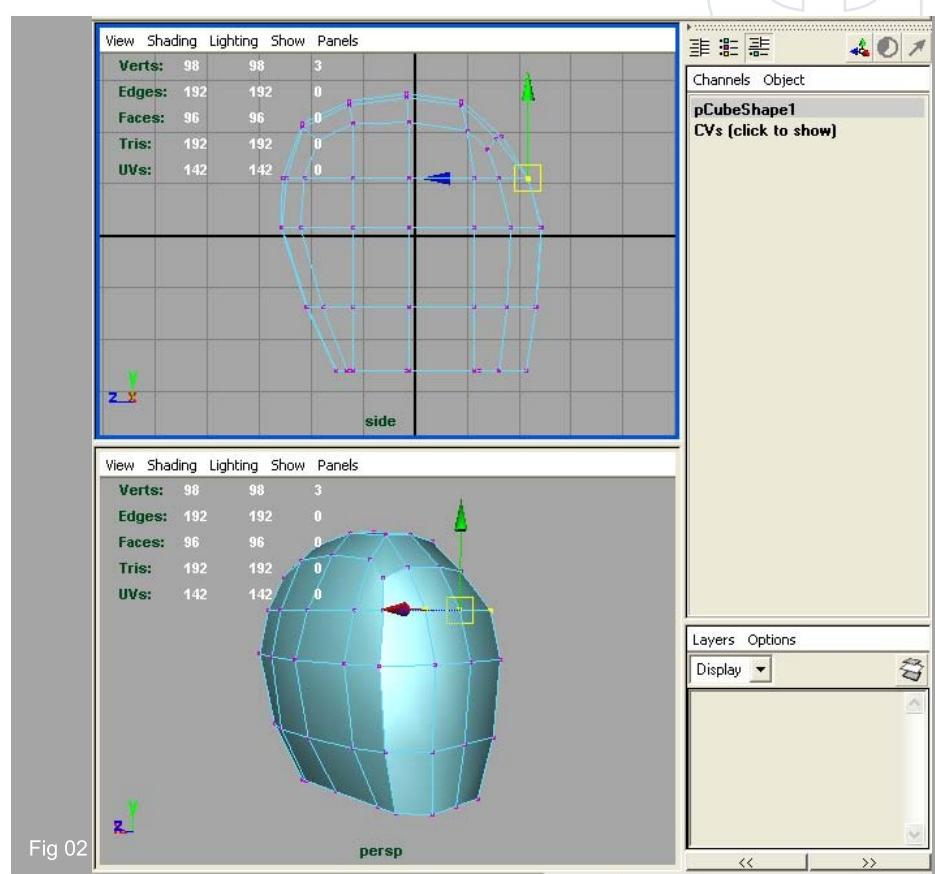

Fig 02
2. Now we need to enter component mode to manipulate the verts. With the cube selected, right mouse button click and hold on top of the cube and you'll notice a marquee menu pops up. From the menu select "Vertex", and you'll notice that all the individual verts on your cube are now moveable. Start to move and arrange them into the basic head shape. It's best to work from the side viewport on this, since we're just looking to create a very basic profile. Don't worry about individual features like nose or mouth, just get a nice head shape going. (Fig 02)